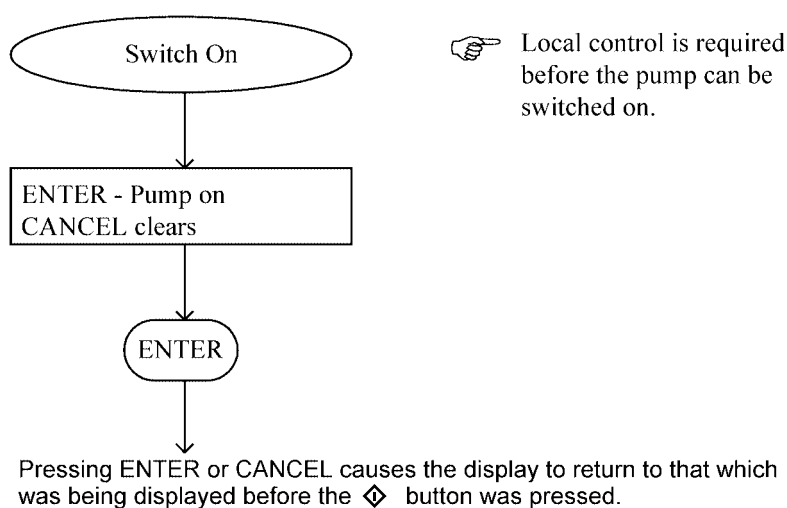

Figure 17 - Switch on menu
- In the Switch On and Switch Off menus (Figure 17 and 18), when you press CANCEL, the menu is exited and the display reverts to that which was displayed before On or Off were pressed.